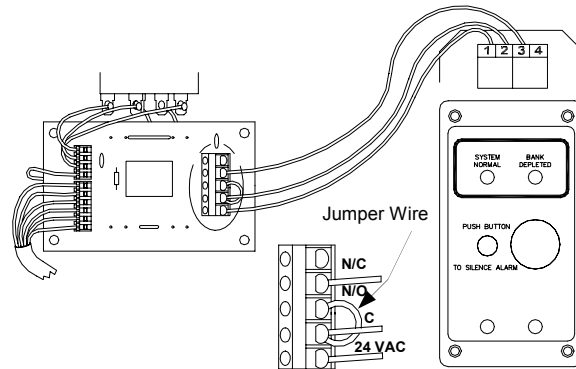

Figure 13
1. Connect one 24 VAC lead from the alarm to one 24 VAC terminal on the right side of the circuit board in the power supply box. (Figure 13)
3. A jumper wire is connected between one 24 VAC terminal and the common (C) terminal.